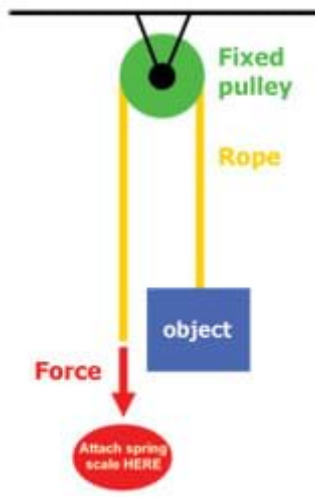

Figure 4. Fixed pulley.
8. Have one student hold the pulley still and another pull the string sideways or down, as shown in Figure 4. Record the force needed (measurement on the spring scale) on the worksheet.